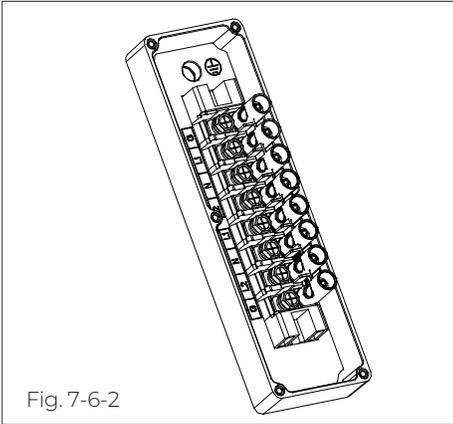

Fig. 7-6-2
**Step 2:** When opening the junction box, inspect the terminal strip and connection label as shown in Fig. 7-6-2.